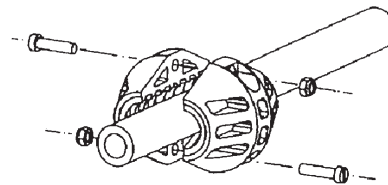

Fig. 7
2. Remove the hose stop (fig. 7).